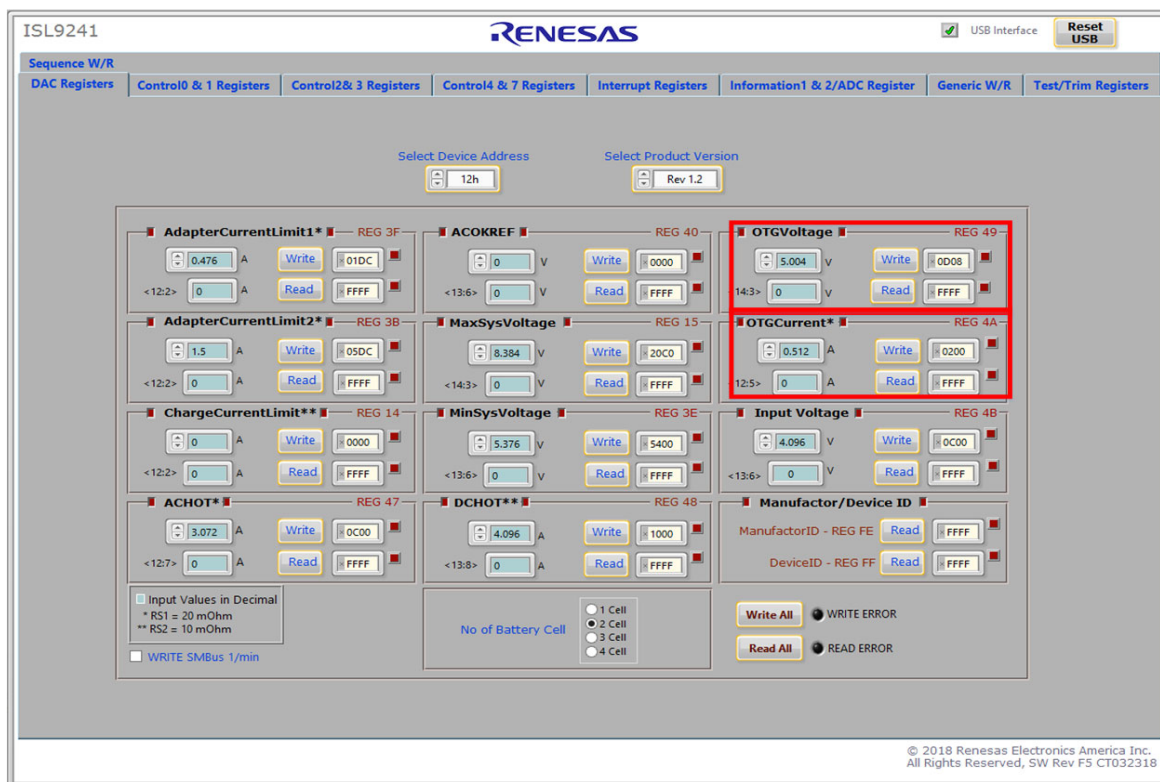

Figure 9. OTGVoltage and OTGCurrent Settings in GUI
- (1) Set the battery emulator voltage at a constant value between 5.8V and 15V. Connect battery leads J_5 and J_6 with the output disabled.
- (2) Connect an electric load on supply leads J_1 and J_2 with the output disabled.
- (3) Connect the USB cable at the USB port for SMBus. Only LED1 is on. Turn on the battery emulator and electrical load without adding any load.
- (4) Open the ISL9241 GUI. **OTGVoltage** is the voltage value for the load side, as shown in Figure 9, and **OTGCurrent** is the OTG output current limit at the load side. You can set these values as needed within the output limit range. Refer to the ISL9241 datasheet for the limit ranges.